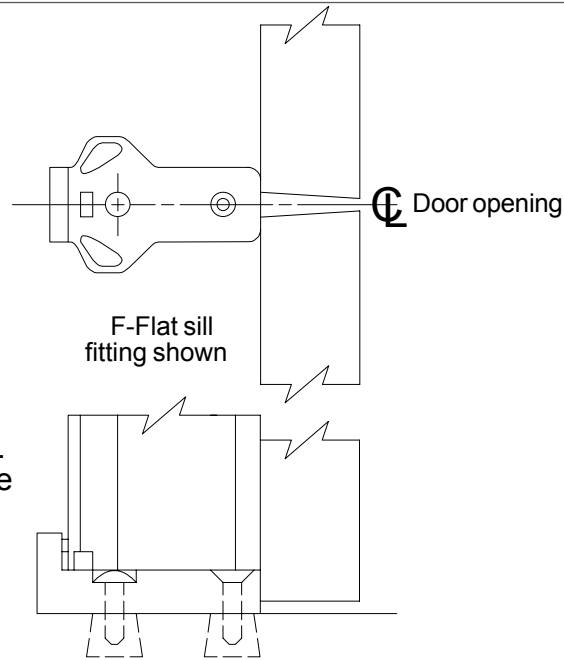

Figure 1
1. Line up bottom mullion fitting with center of door opening and flush with closed doors (Figure 1 or 2) and install.